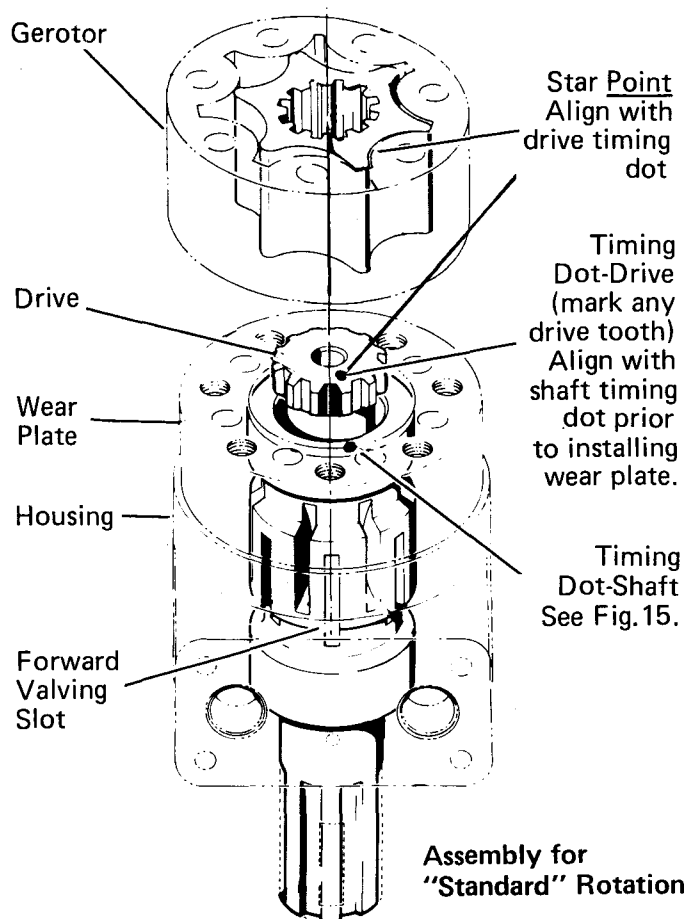

Figure 26
**42.** Install drive, observe proper timing procedure, see Fig. 26. Dot on drive end must extend out of shaft.
**45** Carefully place the gerotor on the wear plate, seal side toward wear plate. Observe proper timing procedure, see Fig. 26.
When timing is orientated as shown in Fig. 26.